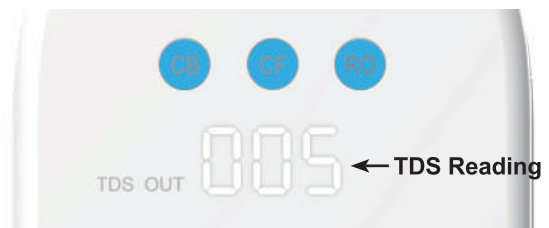

Figure 23
4. Turn on the RO faucet, and allow it to run for 30 minutes until the front panel screen starts displaying a TDS reading (Figure 23);